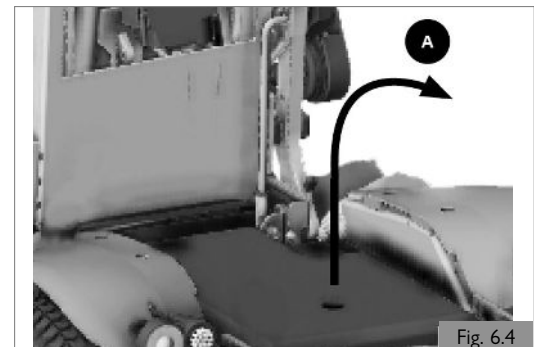

Fig. 6.4
3. Lift off the base shroud (B) (Fig. 6.4).
4. Insert red seat stay pin into the hole located in the seat module interface (Fig. 6.4)